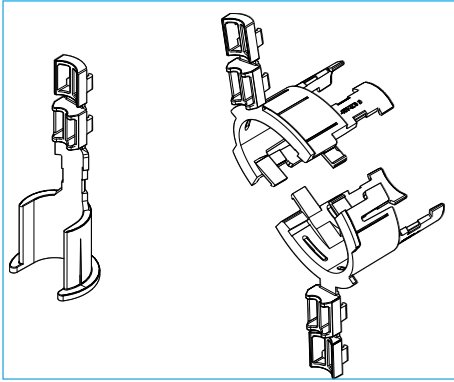

Figure 20.
9.2.5.1 Spacers are used to limit cable flexure inside the closure. Each spacer comes with tabs to accommodate a range of cable sizes up to 1.0" in diameter. (Figure 20)